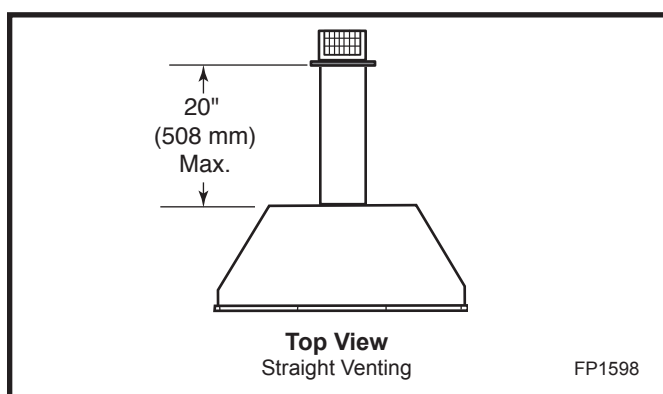

Fig. 15 Rear vent applications.
- **The maximum straight out the back horizontal distance between the rear of the appliance and the outside face of the rear wall is 20" (508 mm). The minimum is 7" (178 mm). (Fig. 15)**